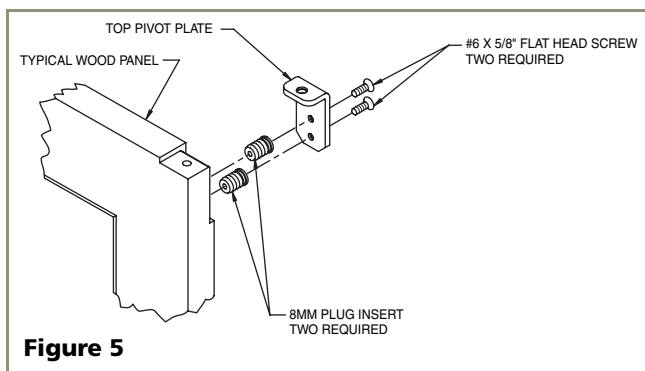

Figure 5
1. Tap nylon inserts into the top holes drilled in the wood panel. Use two #6 screws (P/N 42122) to attach top pivot bracket (P/N 12029) to the wood door panel (Figure 5).